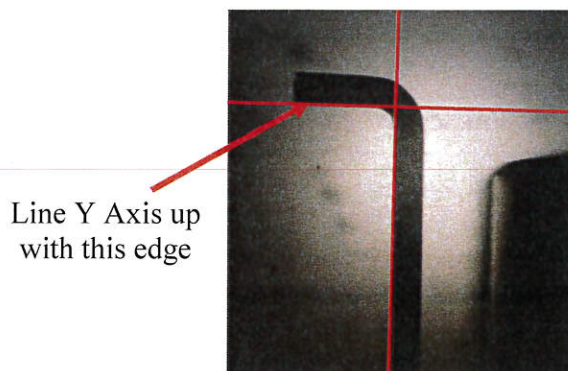

Figure 13: Measuring the foot angle, shown with enhanced axis lines.
6.2.9. **Foot Angle.** Line the X axis with the leg then measure the angle by lining up the Y axis using the rotary screen as shown in Figure 13: to the foot. Enter the result read from the angle read out shown Figure 7: manually using the Keyboard. Refer to Degrees – Decimal conversion chart (Document Number AEU00243) to convert the minutes to a decimal. Once measurement is taken, reset the rotating screen to 0.0°.